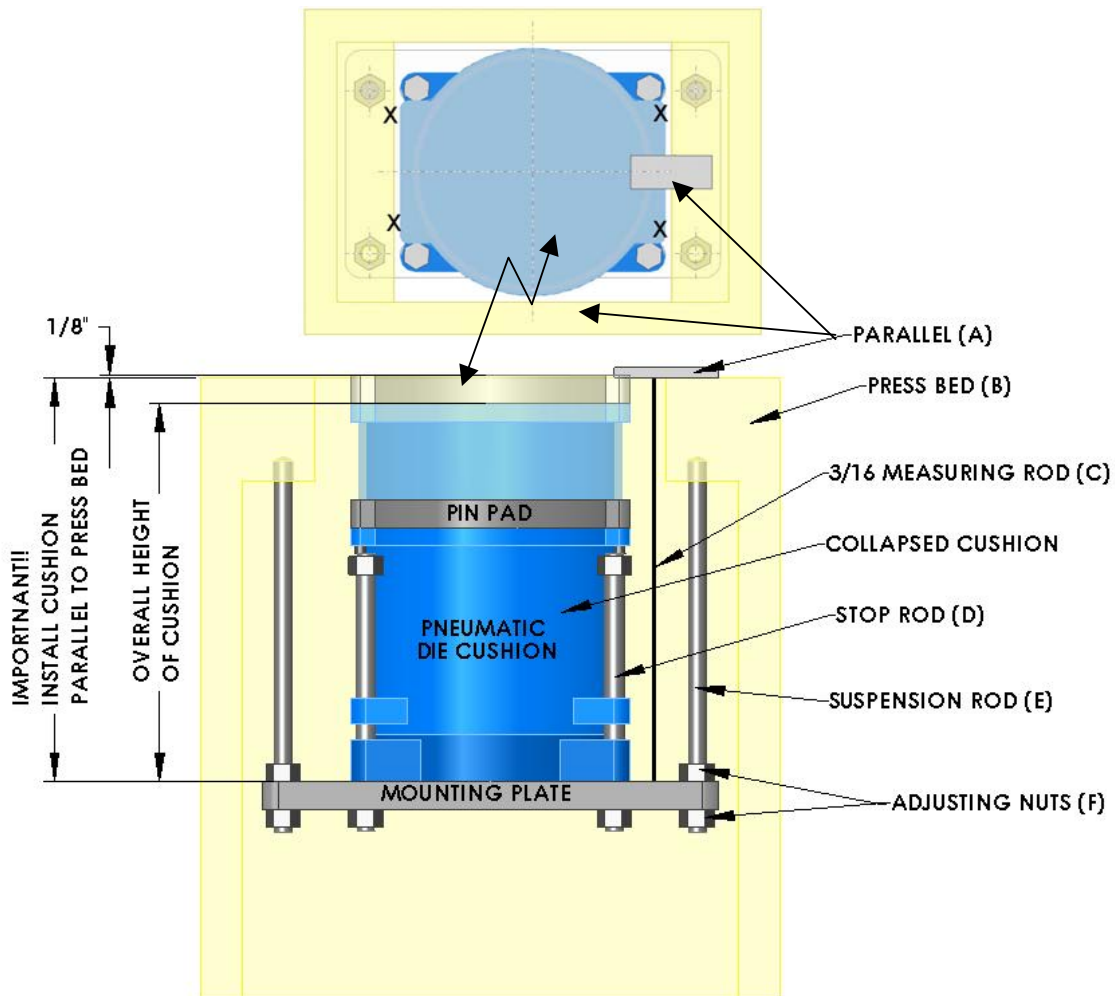

Fig. 6 Press bed Mounted Model C cushion.
(1) Remove the bolster plate and check both surfaces carefully to make sure they are flat and parallel. **THIS IS IMPORTANT!** If surfaces are bowed and not parallel, have them machined so that the pin pressure pad of the cushion will have an accurate surface to stop against.
(2) Screw the ends of the suspension rods, "E", (See Fig. 6) with the short length of thread into the drilled and tapped holes in the press bed, which have been provided for mounting the die cushion. Make sure these rods are pulled up as far as they will go into the tapped holes. If the cushion is to be suspended from mounting bosses that are not tapped, the mounting rods are provided with nuts on both top and bottom of the bosses.
(3) With the use of skids or timbers, slide the cushion unit into the approximate location relative to the press bed opening. (**NOTE:** If the distance between the mounting rods at the front of the press bed is not enough to allow the cushion to pass between them, it is advisable to leave them out until after the cushion has been placed under the press bed opening.)
(4) Run on the upper adjusting nuts, "H", as far as they will go. Raise the cushion unit so that the rods pass through the holes in the mounting plate or mounting channels and run on the lower adjusting nuts, "H".
(5) Prepare a measuring rod, "C" from 3/16" round steel for adjusting the height and alignment of the cushion unit. The over-all length of this rod should be equal to the overall height of the cushion when expanded, plus the thickness of the pin pad minus 1/8". **The 1/8" is allowed to make sure that the pin pressure pad comes to rest against the bottom of the bolster plate.**
(6) With a large parallel, "A", laid on top of the press bed, (See Fig. 6) line up the supporting structure at the four points marked, "X", by using the measuring rod, "C". The adjustment and alignment of the mounting plate at these four points must be held to a maximum tolerance of 1/64" avoid a tilting action. After this adjustment is obtained, lock the upper adjusting nuts on the mounting plate, which will secure the cushion unit in correct parallel alignment and relative height in connection with the top of the press.